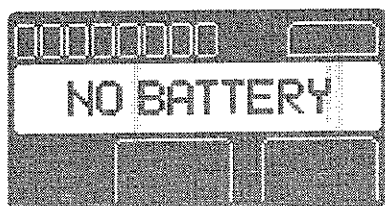
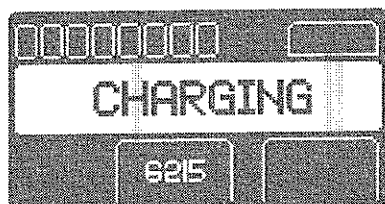

Figure 6 No Battery Information Screen
Figure 7 Battery Information Screen
1. Insert a clean, dry battery pack into a compatible module with a NO BATTERY information screen (see figure 6). Ensure the battery pack is properly seated. The information screen will momentarily display the battery pack part number (see figure 7).